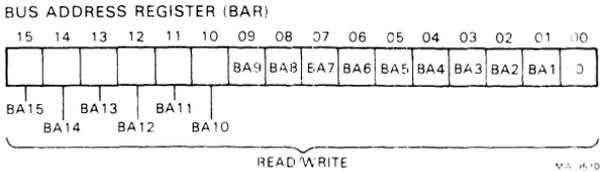

Figure 6 Bus Address Register
**Bus Address Register (BAR)** – The bus address register (Figure 6) is a 16-bit, word-addressable register with an address of 174402. Bits 0 through 15 can be read or written; bit 0 should normally be written as 0. Expansion bits 16 and 17 are programmable via bits 4 and 5 of the CSR.